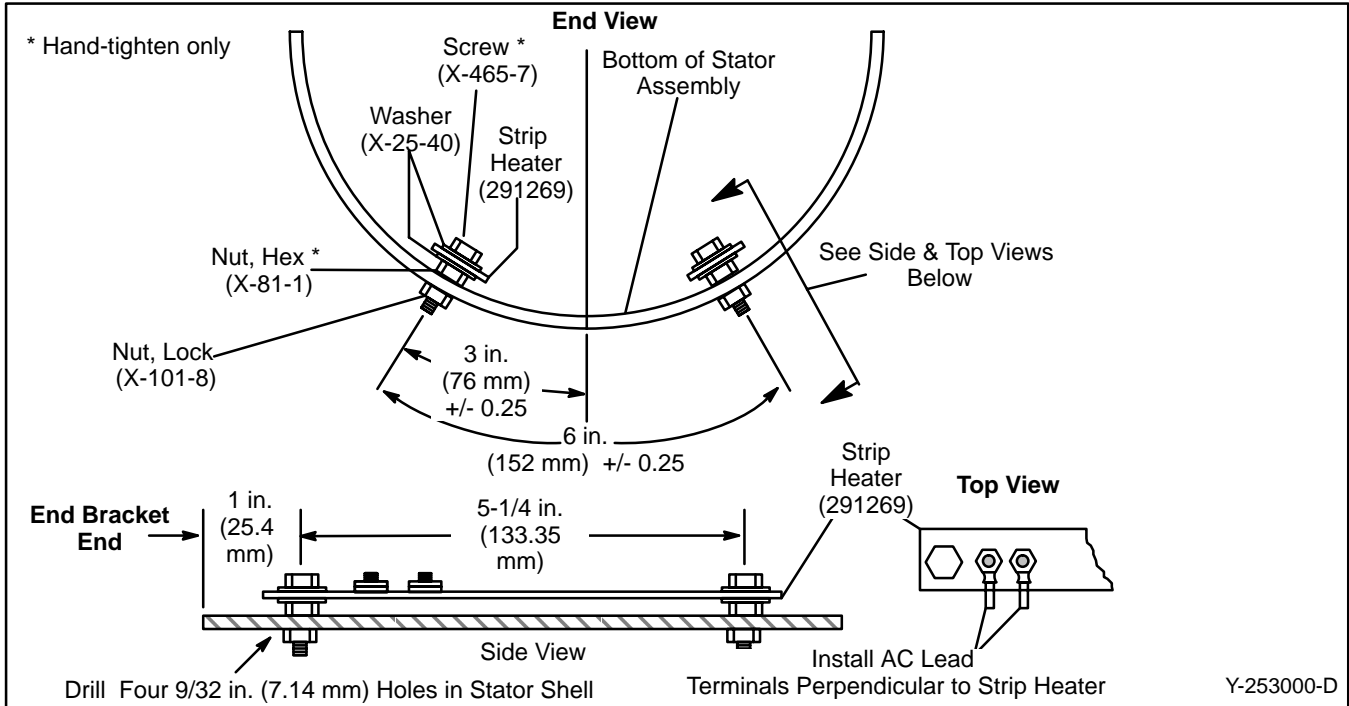

Figure 1. Generator Heater Installation
4. Connect AC leads to strip heaters. Position lead terminals perpendicular to strip heater. See Figure 1.
5. Assemble strip heaters (291269), screws (X-465-7), washers (X-25-40), and spiral lock nuts (X-6210-2) as shown in Figure 1. Install spiral lock nuts so the flange is against the stator shell when
6. Secure strip heater assemblies to stator with lock nuts (X-101-8). Position strip heaters with the AC terminals closest to the end bracket of the generator set. See Figure 1.